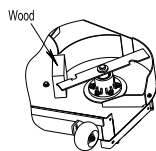

Fig. 11 Diagram of Installing the Blade
- d) To install the blade (if the blade needs to be removed), put a piece of wood in the front or rear baffle, and then tighten the bolt with a torque of 115-120 lb·ft (156-163N · m); Make sure the cup of the disc washer is pointing towards the blade; See Figure 11